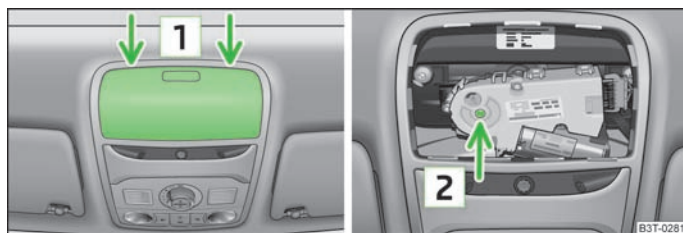

Fig. 31 Detail of the headliner/key-operated positioning point
The panoramic sliding roof can be closed or opened manually if the system is faulty. The emergency operation of the panoramic sliding roof is located underneath the glasses storage box **1** » Fig. 31.
- Carefully insert an approximately 5 mm wide screwdriver into the slot in the positions shown by the arrows **1** » Fig. 31.